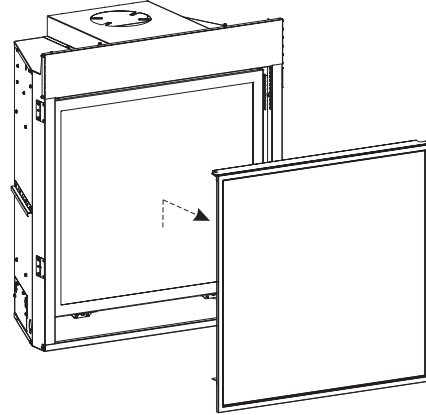

Figure 4
1. Turn off power and gas. Lift barrier screen and pull away from the unit. See Figure 4.
23. Replace barrier screen removed in step 1. **See Figure 4.**